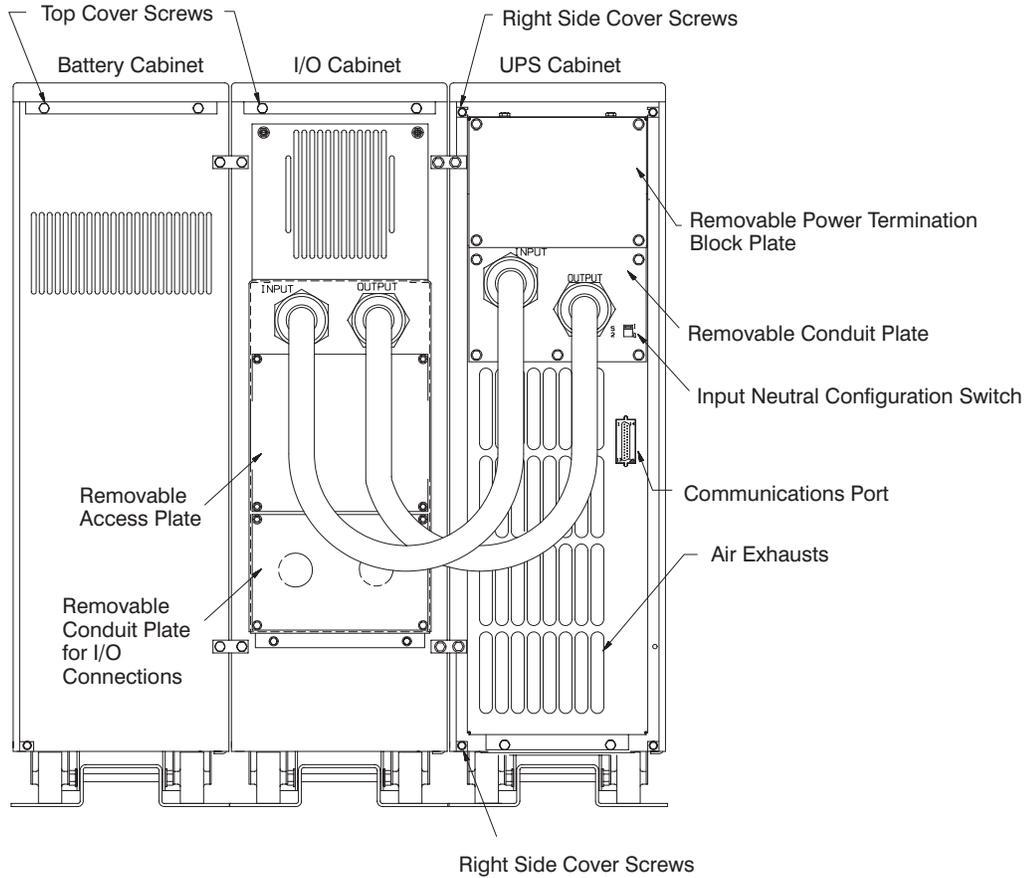

Figure 27. Rear View of the Plus 18 UPS with I/O Cabinet
7. Remove the two screws located at the top rear of the battery and I/O cabinets (see Figure 27). Retain the screws.
10. Remove the right side cover of the UPS cabinet by removing the mounting screws (four each) as shown in Figures 27 and 28. Retain the screws.